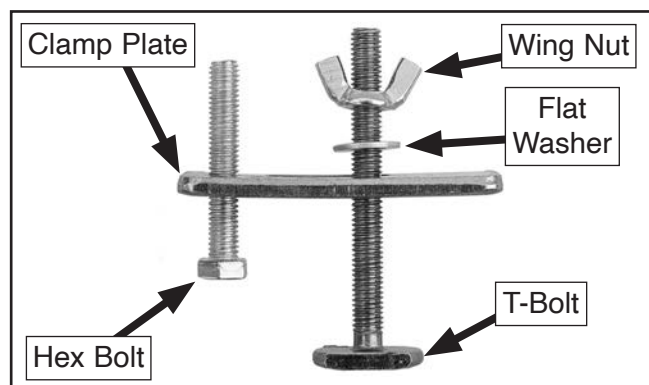

Figure 123. T-slot clamp components.
2. Thread hex bolt into clamp plate, then insert T-bolt through clamp plate and thread on flat washer and wing nut (see **Figure 123**).